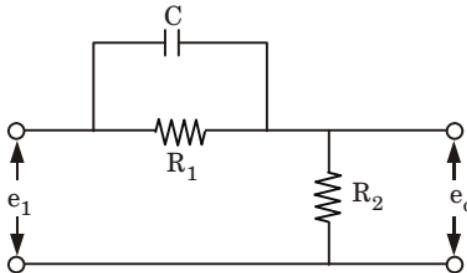

Fig. 18. Phase lead network.
1. Fig. 18 shows a phase-lead network where in the phase of output voltage leads the phase of input voltage for sinusoidal input.